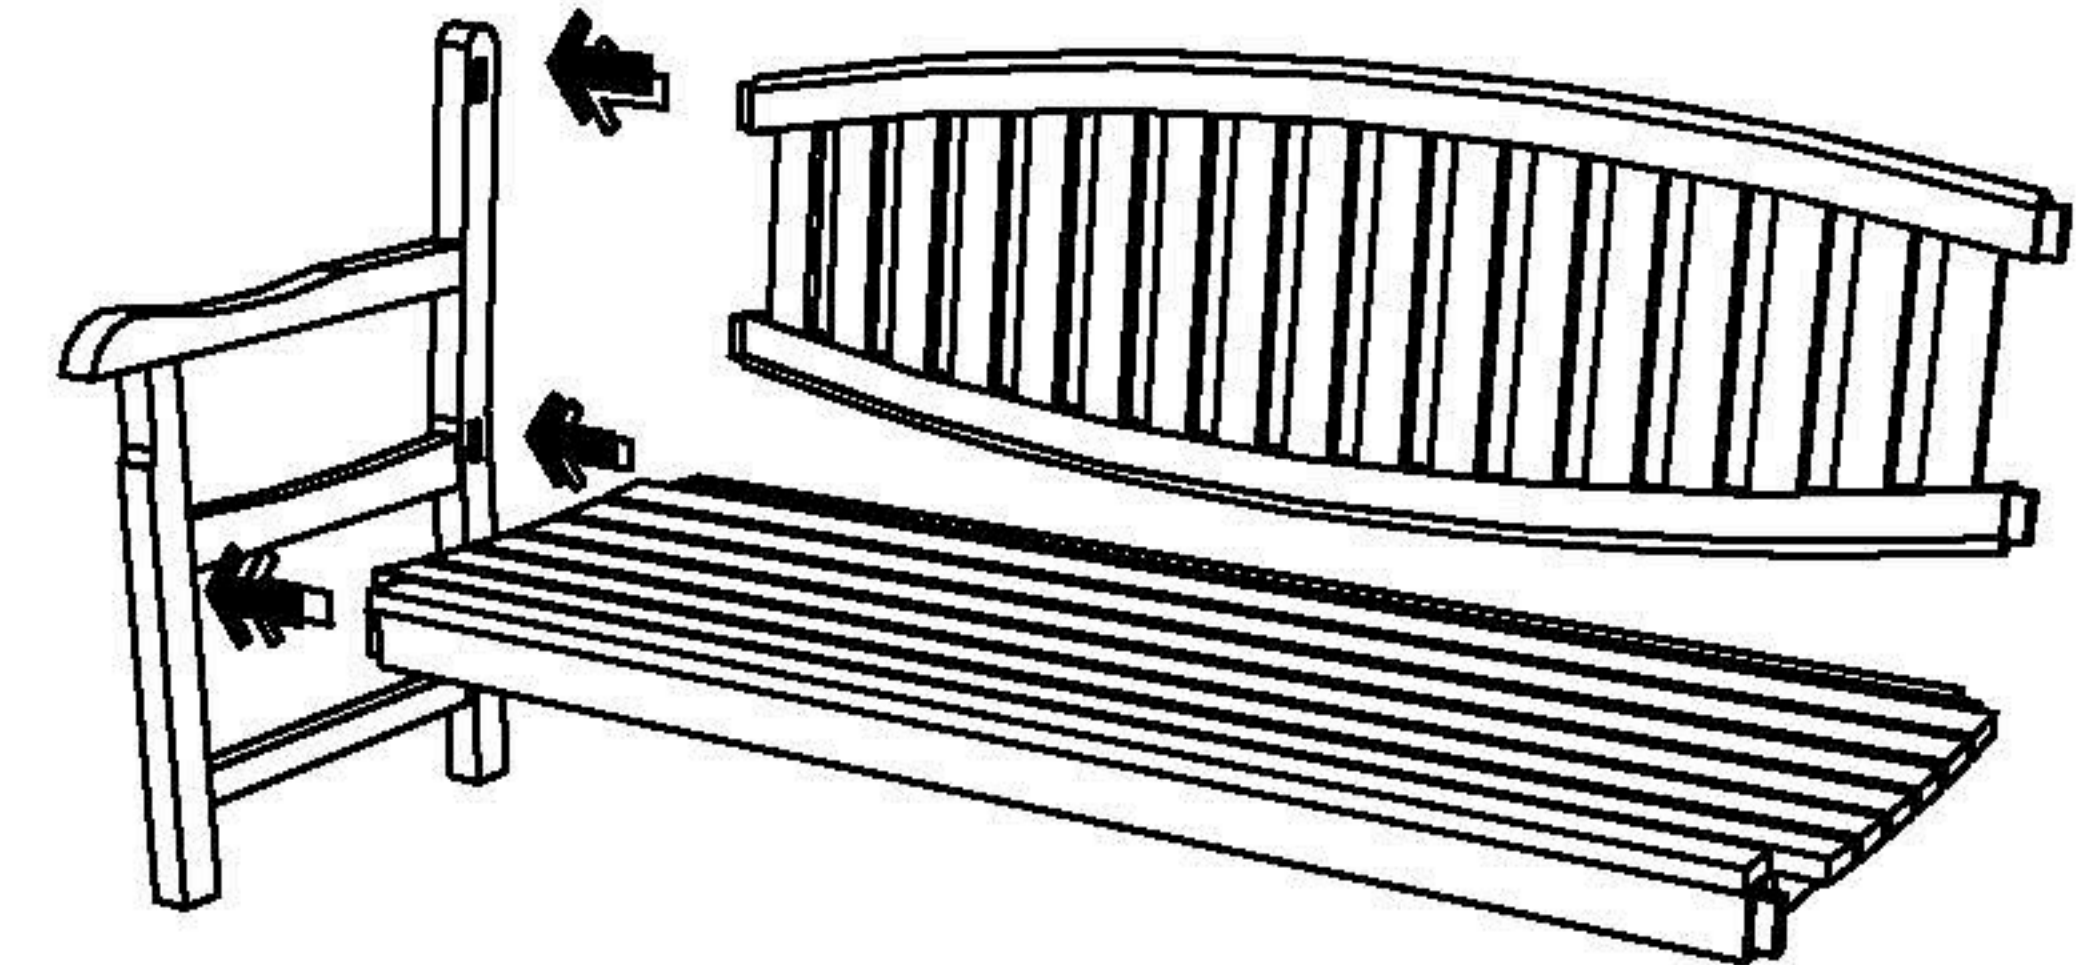

fig 3.
4. Insert to the leg. ( Fig. 3 )